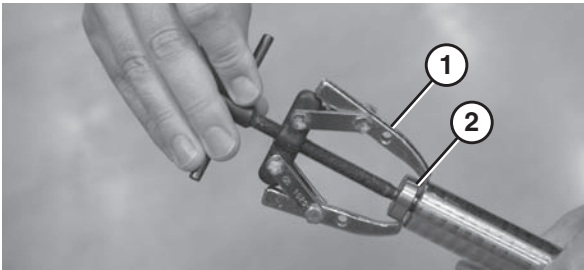

Figure 97
2. Using a bearing removal tool (Figure 97, item 1) remove the bearing (Figure 97, item 2).